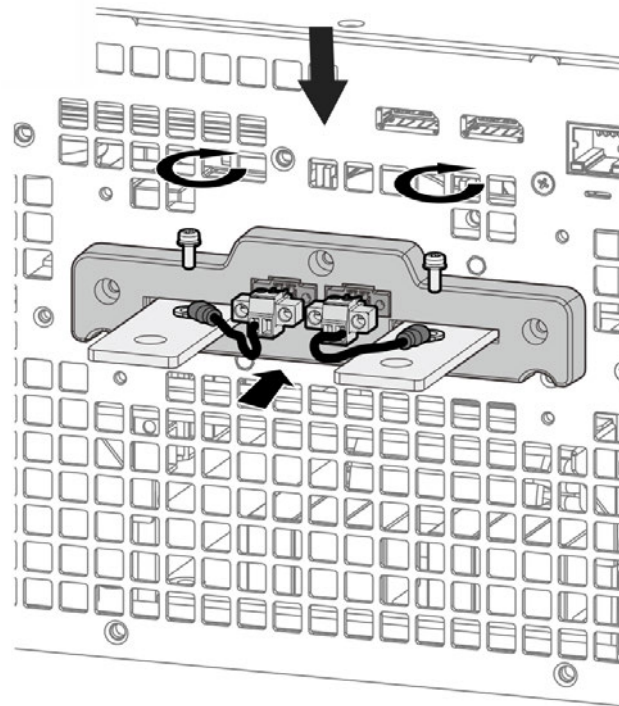

Figure 2-2
2. Figure 2-2 shows the correct connection. Use two wires to connect the positive/negative connector of the load to the remote sensing connector on the rear panel. The connecting wire diameter must be 22AWG, and its withstand voltage should meet the 3kV specification.